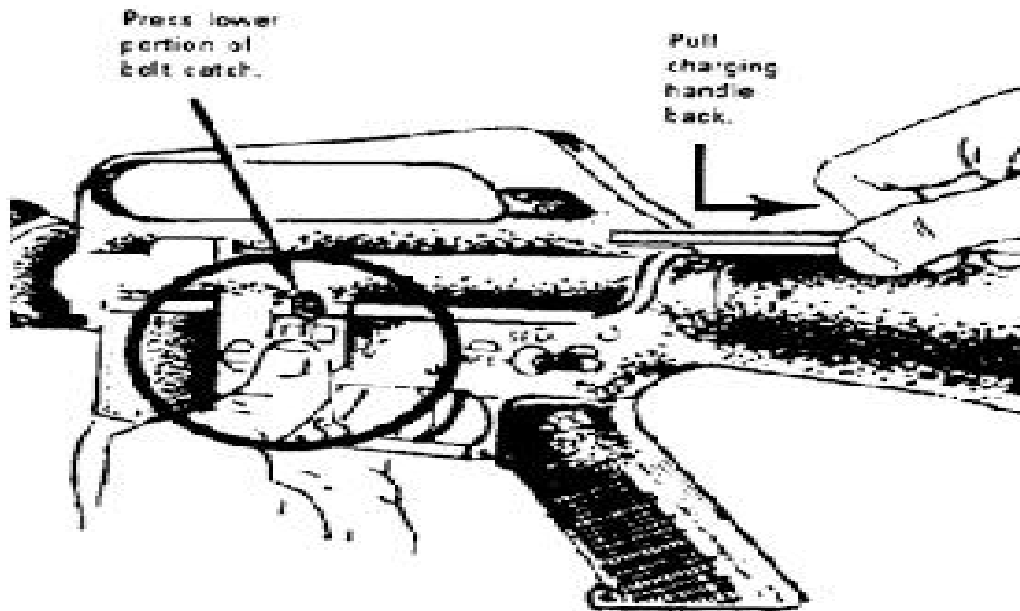

Figure E-2 Locking the bolt open
- d. Lock the bolt open (figure E-2).